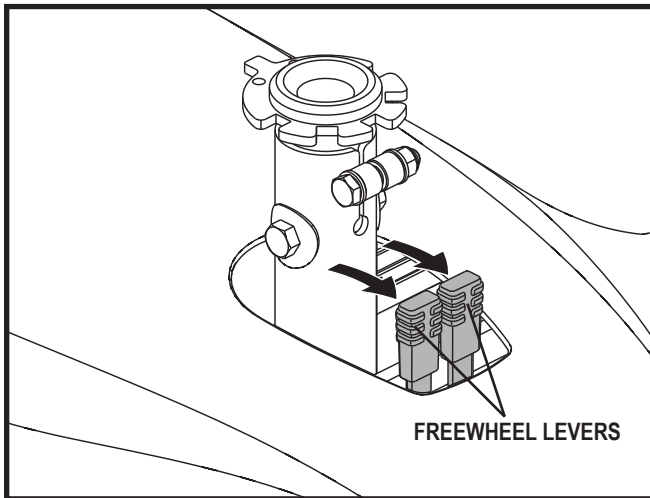

Figure 5. Drive Mode (Drive Engaged)
2. Push both levers forward away from the seat post to engage the drive motors (drive mode). **See figure 5.**
2. Ensure the power chair is in drive mode. **See figure 5.**